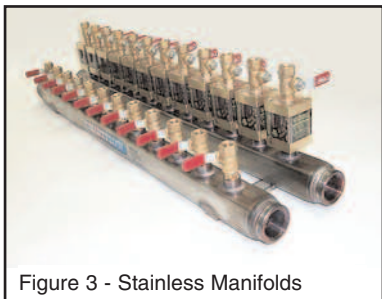

Figure 3 - Stainless Manifolds
- Stainless steel manifolds (see Figure 3) are typically fabricated from 304 square tubing. Half couplings for supply, return and distribution ports are welded to the tube. SS manifolds are often specified for highly corrosive cooling water applications.
- The option of additional fittings and flowmeters for a semi-custom flow meter and shutoff installation (see Figure 3).